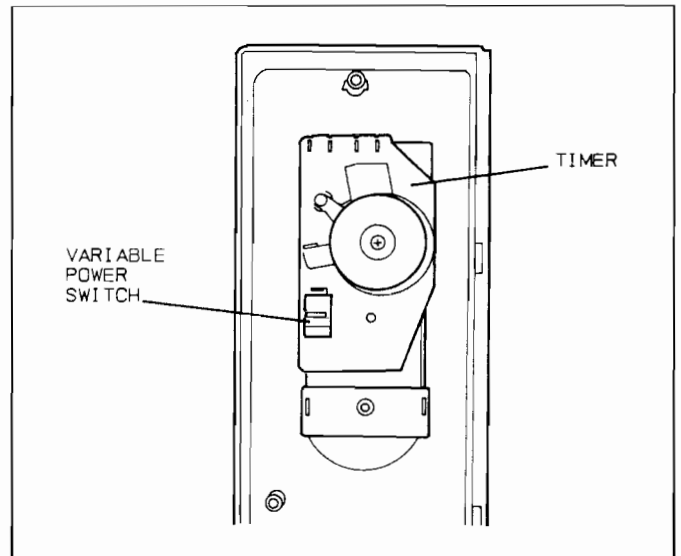

Fig 33
7. Variable power controller (Fig. 33) (NN-6258)
- (A) Isolate variable power switch from the circuit by disconnecting 2 leads.
- (B) In order to check if variable power controller is operating normally, follow the test procedures below.